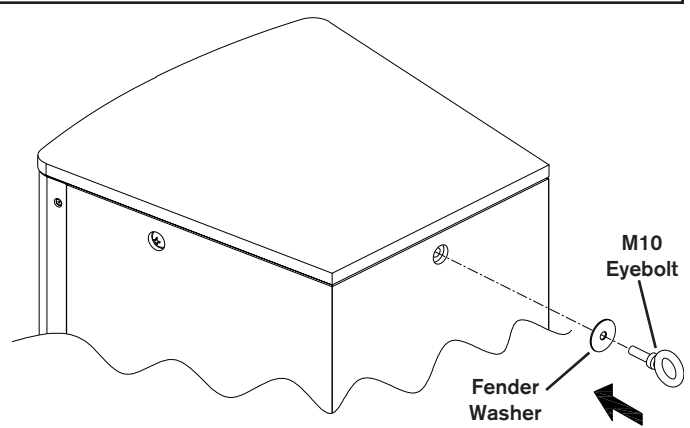

Figure 3: Installing Fender Washers and Eyebolts to the Loudspeaker
2. Screw the lifting eyebolt and fender washer into the insert until the fender washer has contacted the wood (See Figure 3).